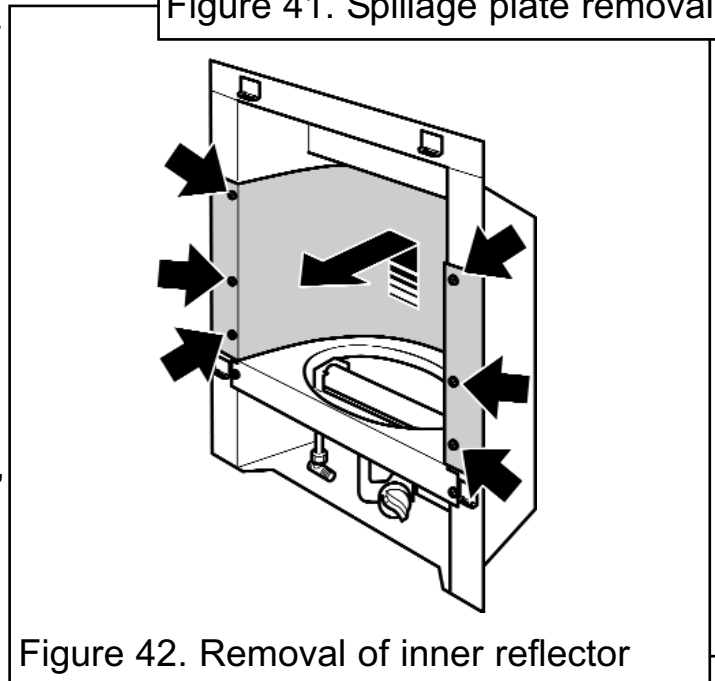

Figure 42. Removal of inner reflector
4. Remove the six screws from the side of the inner reflector (See figure 42).